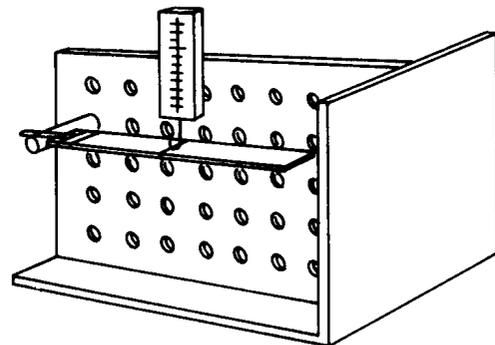

Figure 6-22
2. Set up the pegboard platform and attach the end of the ruler with the loop over the pegboard support rod. Support the ruler with a spring scale and a loop of thread placed at the 15-cm mark of the ruler (Fig. 6-22).